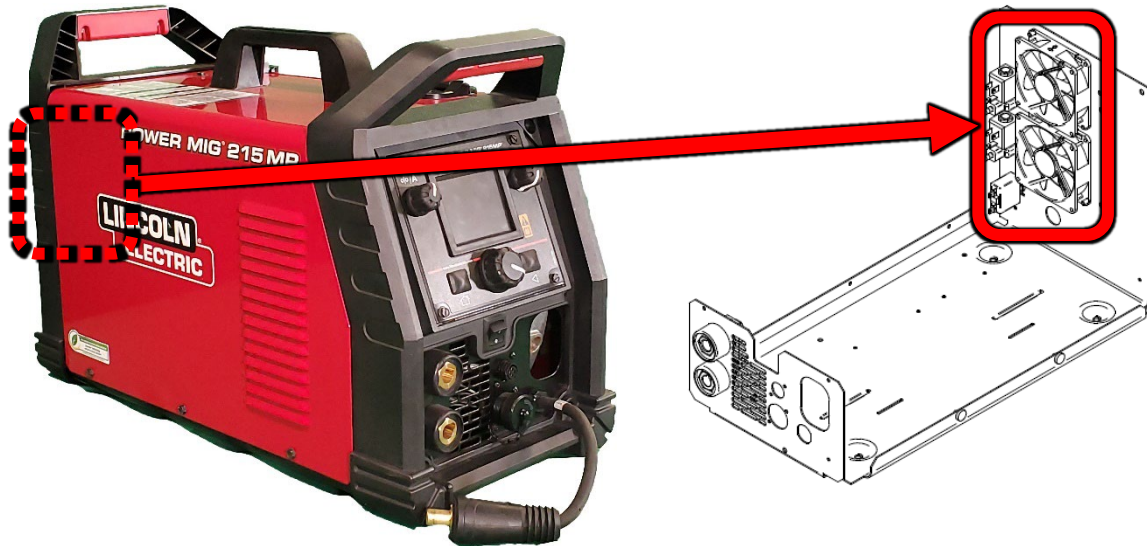

Figure F.1
1. For location of the Fans refer to Figure F.1.